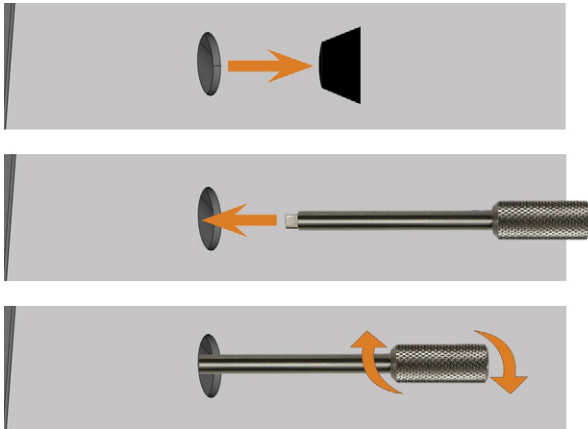

FIG. 35 – USING THE KEY FOR THE EMERGENCY RELEASE
2. Deactivate the safety interlock of the working chamber door, as shown in the figure (↗ Fig. 35 – on the next page):